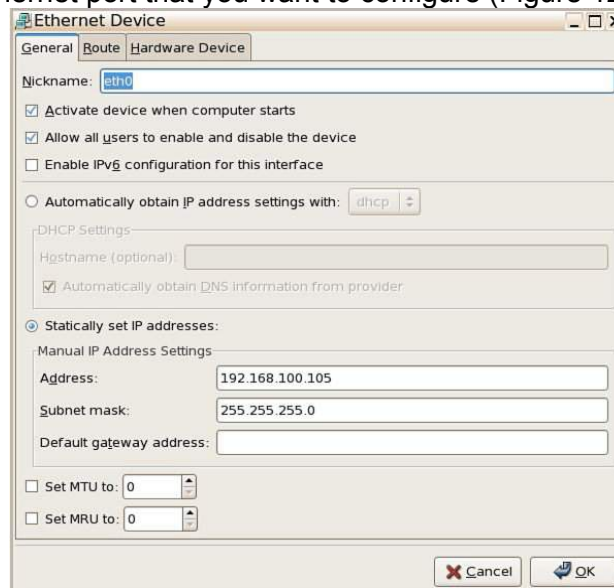

Figure 123: IP Configuration
- Double-click the Ethernet port that you want to configure (Figure 123).